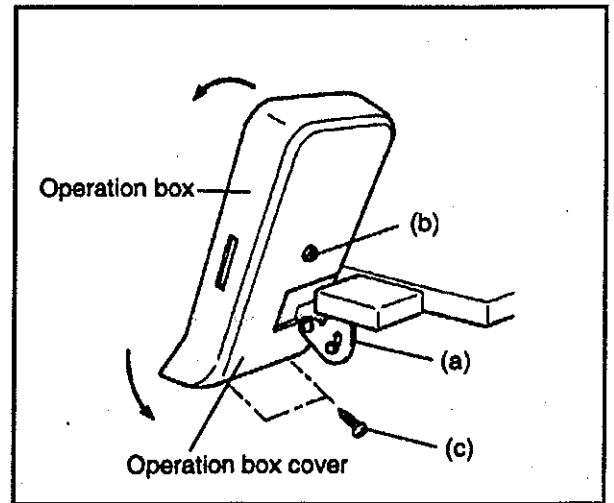

FIG.1
- (2) Remove retaining screw (b) and two retaining screws (c) and the operation box cover (Fig.1).
- (3) Mount the operation box cover with retaining screw (b) and two retaining screws (c) (Fig.1).